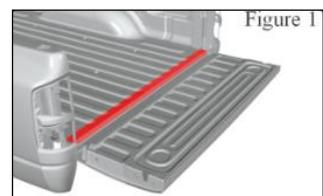

Figure 1
- Use clean cloth with a cleaner that will remove oil/grease to clean the bedside surface where tape will be applied (see Figure 1). Let dry and then apply included adhesion promoter to truck bed surface where tape will be applied and let dry.